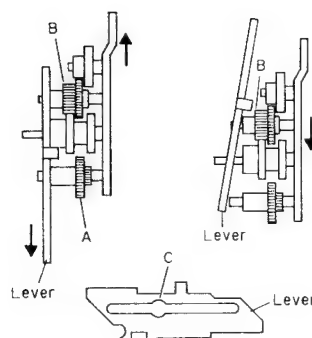

Fig. 15
13. Shift lever as shown in Fig. 15.
15. Shift the gear as shown in Fig. 15.